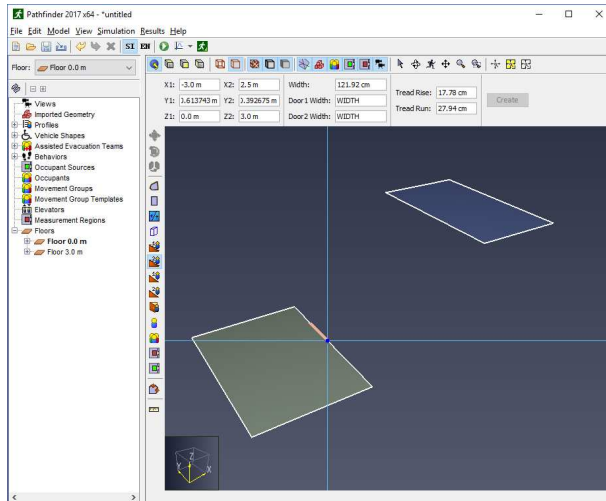
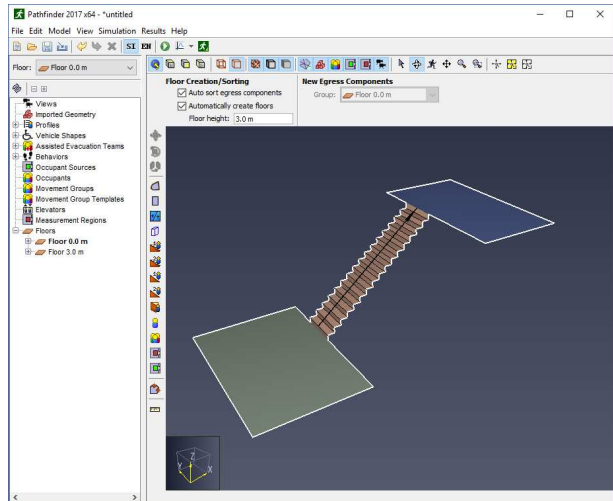

Figure 47. Click the first edge
Figure 48. Click second edge to finish stairs
- b. **Two-click:** Set the desired stair width. Move the cursor over the first edge, and a preview line similar to a thin door will appear previewing the top or bottom of the stairs. Single-click to set the point. (Figure 47) Now move the cursor over the second edge. Now a preview of the stairs will appear connecting the first edge to the second. Single-click on the second edge to create the stairs (Figure 48).